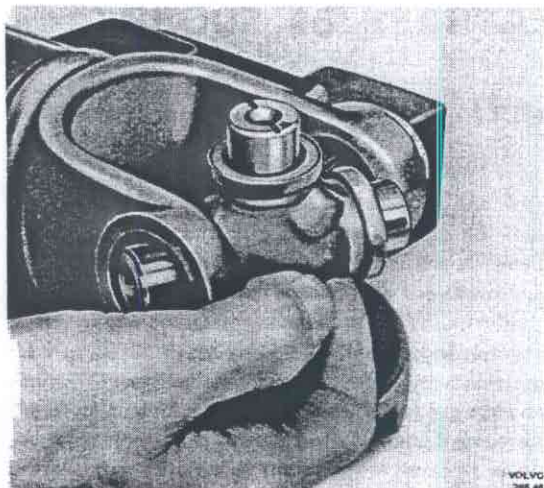

Fig. 45-8. Removing the spider
5. Drive out one of the needle bearings with a narrow drift. Remove the spider, see Fig. 45-8. Drive out the other needle bearing.